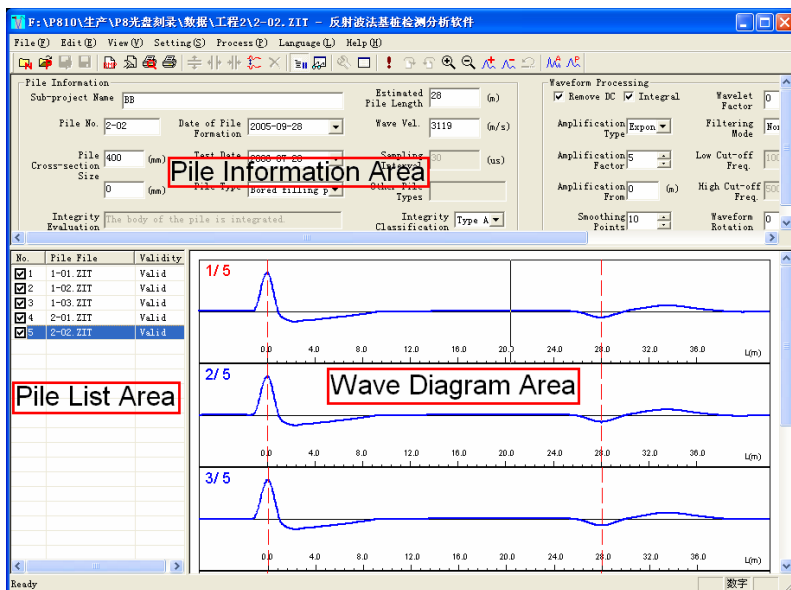

Figure 3.1.1 Software Main Interface
The interface of this software is composed of seven parts (Figure 3.1.1): Title Bar, Menu Bar, Tool Bar, Status Bar, Pile Information Area, Pile List Area, Wave Diagram Area and Pile Diagram Area.
7. **Wave Diagram Area**, displaying the current pile oscillogram, is located at the right part of the main interface, as shown in Figure 3.1.1.